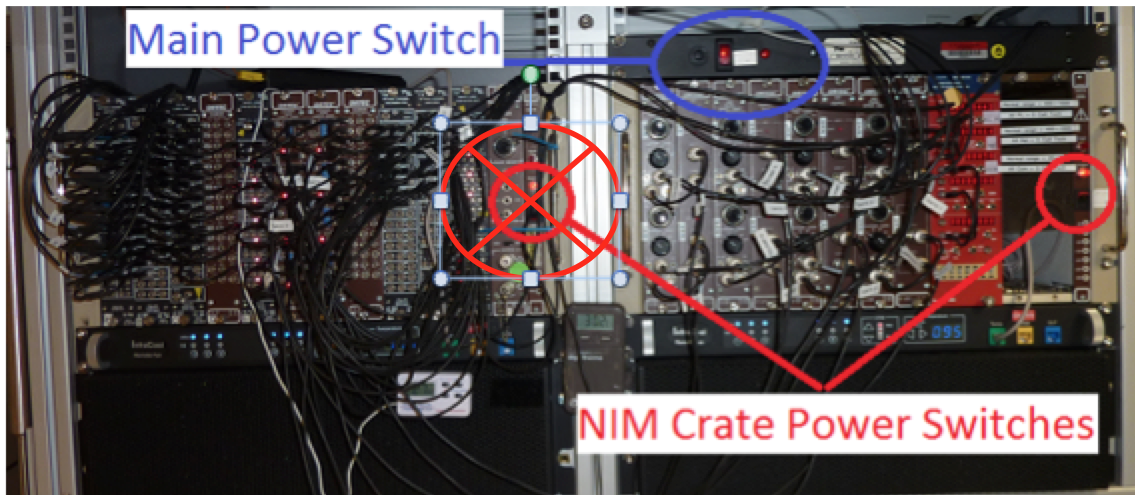

Figure 16. Electronics Crate shutdown switches.
7. Turn off the NaI detector electronics (right-hand NIM rack next to iSEG crate; *Figure 16*). This will turn off the high-voltage supply to all 8 NaI detectors. **Do not turn off the left-hand NIM rack (marked with a circled X in Figure 12 below) or the main power (blue circle) at this time.** Leave all other electronics and fans running to prevent additional condensation from forming.
3. Do **not change the voltage** at any NaI detector at the junction box!!! Remember if you need to switch off the High Voltage you must switch off the whole right-hand NIM crate (right-hand NIM crate button in Fig. 16), which will turn the high voltage off from all NaI detectors simultaneously.
6. Turn off the fast signal processing electronics (*Figure 16*, leftmost NIM rack).
2. Turn on the master power button above the middle NIM rack (blue circle in *Figure 16*).
4. Turn on the NaI detector electronics (right-hand NIM rack next to iSEG crate, the right red circle in *Figure 16*), only after ensuring that the fan under it is working.
5. Turn on the fast signal processing electronics (left-hand NIM rack, the left red circle in *Figure 16*).